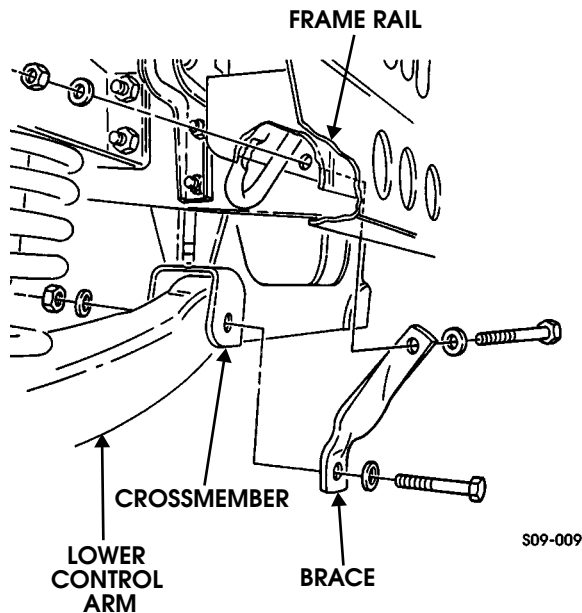

Figure 9-131: Front Suspension Brace Replacement for Vehicles Without Winch
1. Remove locknut, washer, bolt, and washer securing brace to frame rail (Figure 9-131).
1. Install brace on crossmember and lower control arm with washer, bolt, washer, and locknut. Do not tighten locknuts (Figure 9-131).